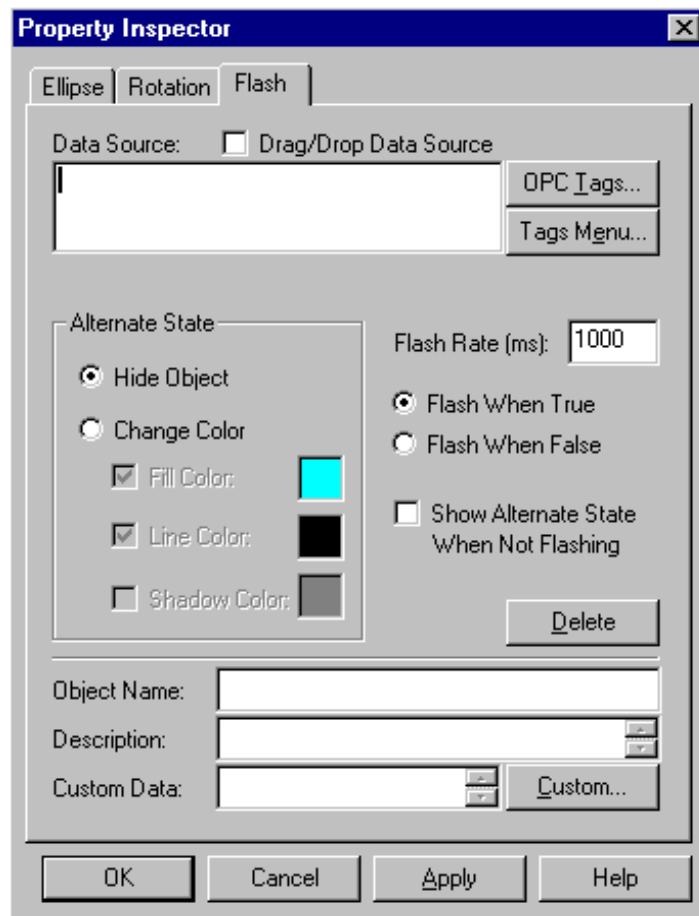

Figure 11-9: Property Inspector Dialog Box - Flash Tab
2. On the Dynamics menu, select Actions > Flash. The Property Inspector dialog box appears with the Flash tab (Figure 11-9).